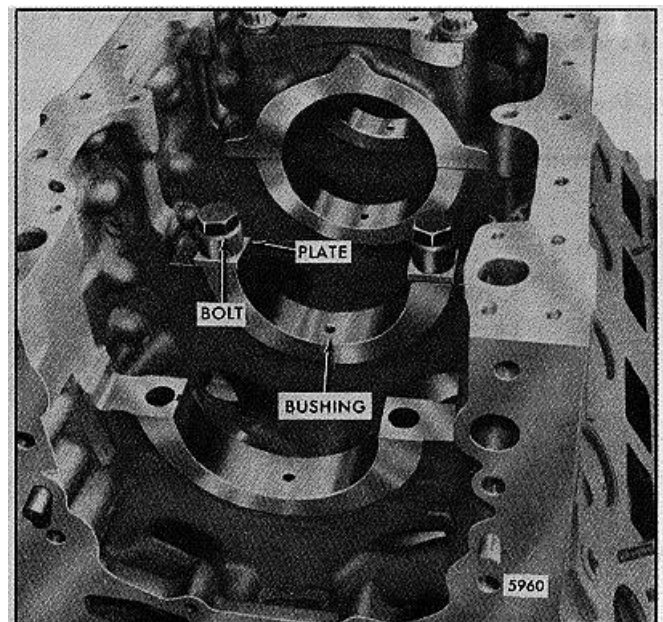

FIG. 9 Position of Bushing and Hold Down Plate
20. Secure the rivets with a hammer and punch. Be careful not to strike the insert directly, as the insert will distort. Two or three blows on the punch are usually sufficient to secure the rivets (Fig. 9).
21. File off the excess rivet material (Fig. 9).